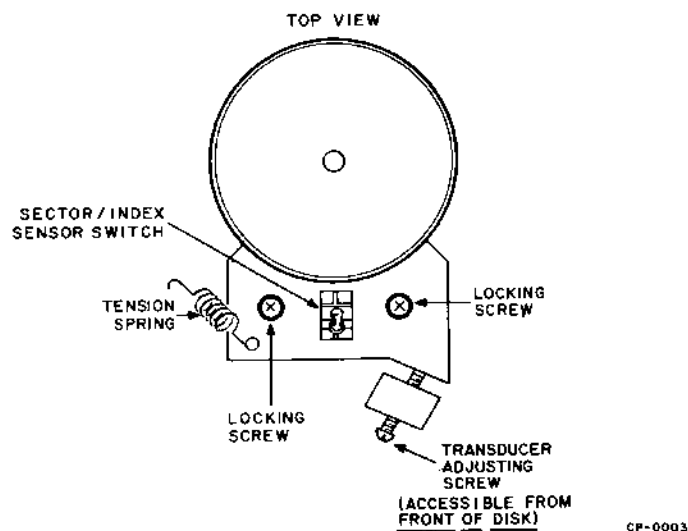

Figure 6-9 Sector Transducer Adjustment Diagram
- 10 If adjustment is required as a result of Step 9, the entire disk must first be removed from the cabinet, the disk cover removed, and the two sector transducer locking screws slightly loosened, but not removed (see Figure 6-9).
- 11 The transducer adjusting screw is accessible from the front of the disk. Adjust this screw to increase or decrease the time delay. Turning the screw clockwise (CW) decreases the time delay and counterclockwise (CCW) increases the time delay. One 360 degree turn of the adjusting screw provides a time delay of $78 \mu\text{s}$.
- 12 Turn the dc power off, remove the CE cartridge, and tighten the transducer locking screws (2) and the locking block to secure the adjustment.